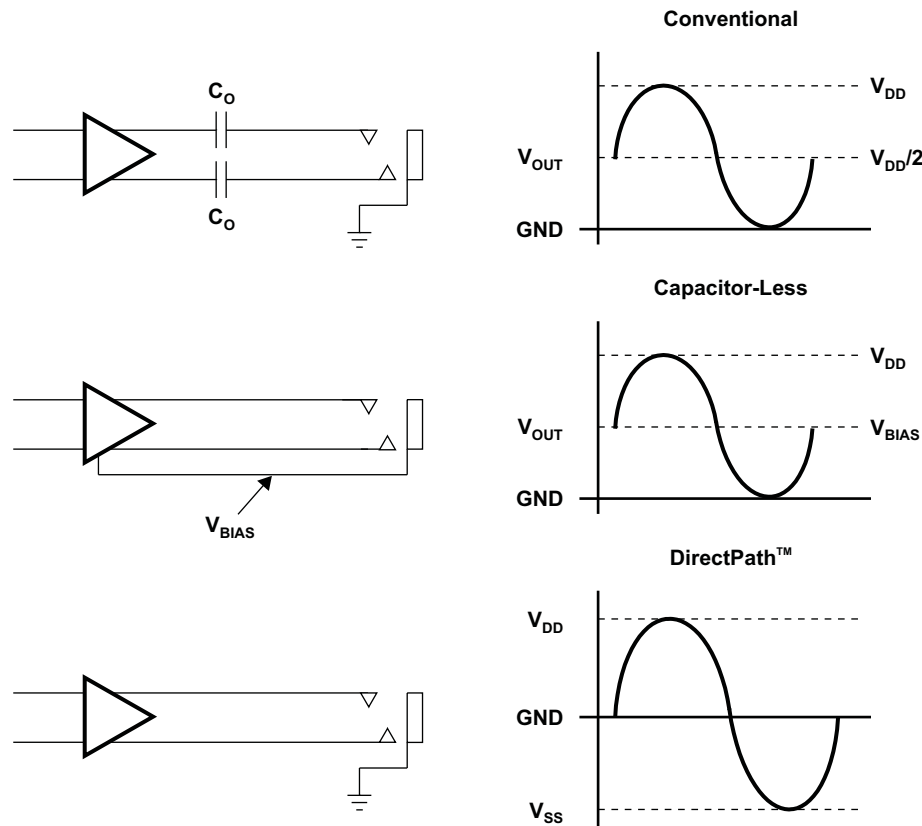

Figure 43. Amplifier Applications
The headphone amplifier has a fixed gain of -1.5 V/V. It uses single-ended (SE) inputs. The DirectPath™ amplifier architecture operates from a single supply but makes use of an internal charge pump to provide a negative voltage rail. Combining the user-provided positive rail and the negative rail generated by the IC, the device operates in what is effectively a split supply mode. The output voltages are now centered at zero volts with the capability to swing to the positive rail or negative rail. The DirectPath™ amplifier requires no output dc blocking capacitors and does not place any voltage on the sleeve. The block diagram and waveform of Figure 43 illustrate the ground-referenced headphone architecture. This is the architecture of the TPA6045A4C.
Single-supply headphone amplifiers typically require dc-blocking capacitors. The capacitors are required because most headphone amplifiers have a dc bias on the outputs pin. If the dc bias is not removed, the output signal is severely clipped, and large amounts of dc current rush through the headphones, potentially damaging them. The left-side drawing in Figure 43 illustrates the conventional headphone amplifier connection to the headphone jack and output signal.
Two different headphone amplifier applications are available that allow for the removal of the output dc blocking capacitors. The capacitor-less amplifier architecture is implemented in the same manner as the conventional amplifier with the exception of the headphone jack shield pin. This amplifier provides a reference voltage, which is connected to the headphone jack shield pin. This is the voltage on which the audio output signals are centered. This voltage reference is half of the amplifier power supply to allow symmetrical swing of the output voltages. Do not connect the shield to any GND reference, or large currents will result. The scenario can happen if, for example, an accessory other than a floating GND headphone is plugged into the headphone connector. See the second block diagram and waveform in Figure 43.